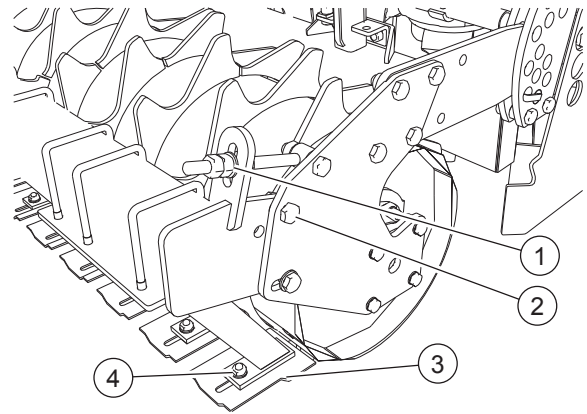

FIG. 32
- Loosen nut (2, "Fig. 32").
- Loosen nuts (1) until the scraper is at the desired distance from the roller.